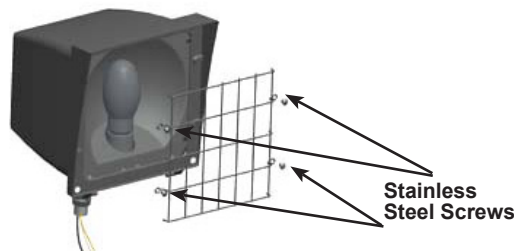
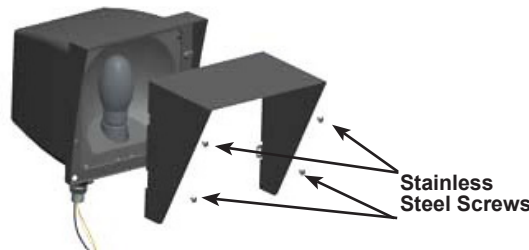

Figure 1
Figure 2
Wire Guard and Hood mount with (4) #10-24 **Stainless Steel Screws**. Screws are provided with accessory. See figure 1 for Guard. See figure 2 for Hood